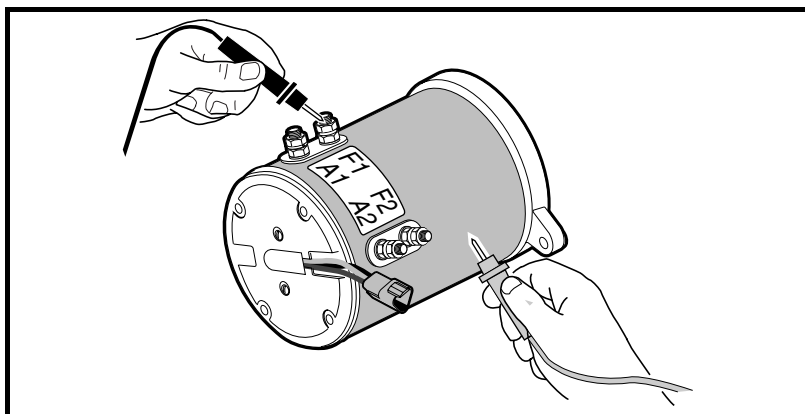

Figure 15-1 Test for Motor Short Circuit
3. Using a multimeter set to 200 ohms ($\frac{3}{4}$), place black (-) probe on motor housing. Scratch through paint to ensure a good connection. Place red (+) probe on A1, A2, F1, and F2 terminals respectively (**Figure 15-1, Page 15-2**). Multimeter should indicate no continuity. If readings are incorrect, motor will need to be removed from the vehicle and repaired by a qualified technician. **See Motor Removal, Page 15-3.**
1. Place Tow/Run switch in the TOW position and disconnect the batteries (**Figure 15-1, Page 15-2**).
2. Using two wrenches to prevent post from turning, disconnect wires from the A1 and A2 terminals on the motor. Using a multimeter set to 200 ohms ($\frac{3}{4}$), place the red (+) probe on the A1 terminal and black (-) probe on the A2 terminal (**Figure 15-1, Page 15-2**). The multimeter should indicate continuity. If the reading is incorrect, a possible open or poor contact in a brush assembly and/or open armature windings may be the cause. The motor will need to be removed from the vehicle and repaired by a qualified technician. **See Motor Removal.**
2. Using two wrenches to prevent post from turning, disconnect wires from the motor F1 and F2 terminals. Using a multimeter set to 200 ohms, place the red (+) probe on the F1 terminal and the black (-) probe on the F2 terminal (**Figure 15-1, Page 15-2**). The multimeter should indicate continuity. If the reading is incorrect, a possible open field coil or bad connections at the terminals may be the cause. The motor will need to be removed from the vehicle and repaired by a qualified technician. **See Motor Removal.**